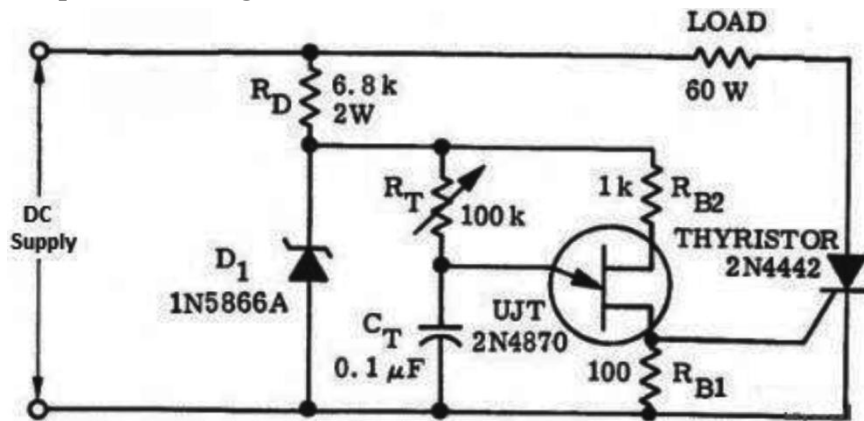

Fig. 5.1 UJT triggering Circuit
1. Make the circuit connection as per the circuit diagram in Fig. 5.1.